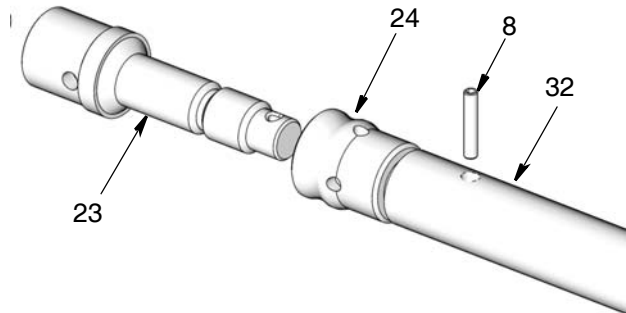

Fig. 19
- Install piston seal (24) over the end of the piston rod (23). Note the correct orientation of the piston seal on the piston rod as shown in Fig. 19.
- Screw the piston rod (23) and the connecting rod (32) together aligning the pin hole in both pieces to allow the pin to be pushed through (Fig. 19).
- Replace the pin (8). Use a rubber hammer to tap the pin into place, being careful to make sure the sides of the pin are flush with the outside surface of the connecting rod (Fig. 19).